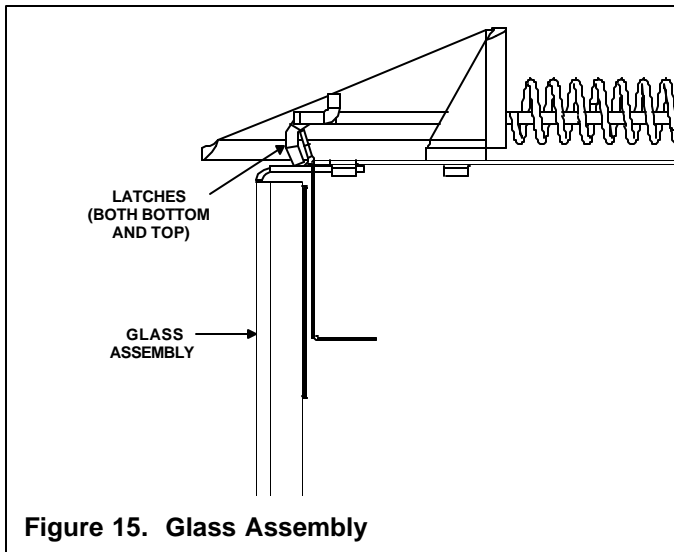

Figure 15. Glass Assembly
- Pull the four glass latches off of the tabs on the glass frame. Remove glass door from the unit (see Figure 15).